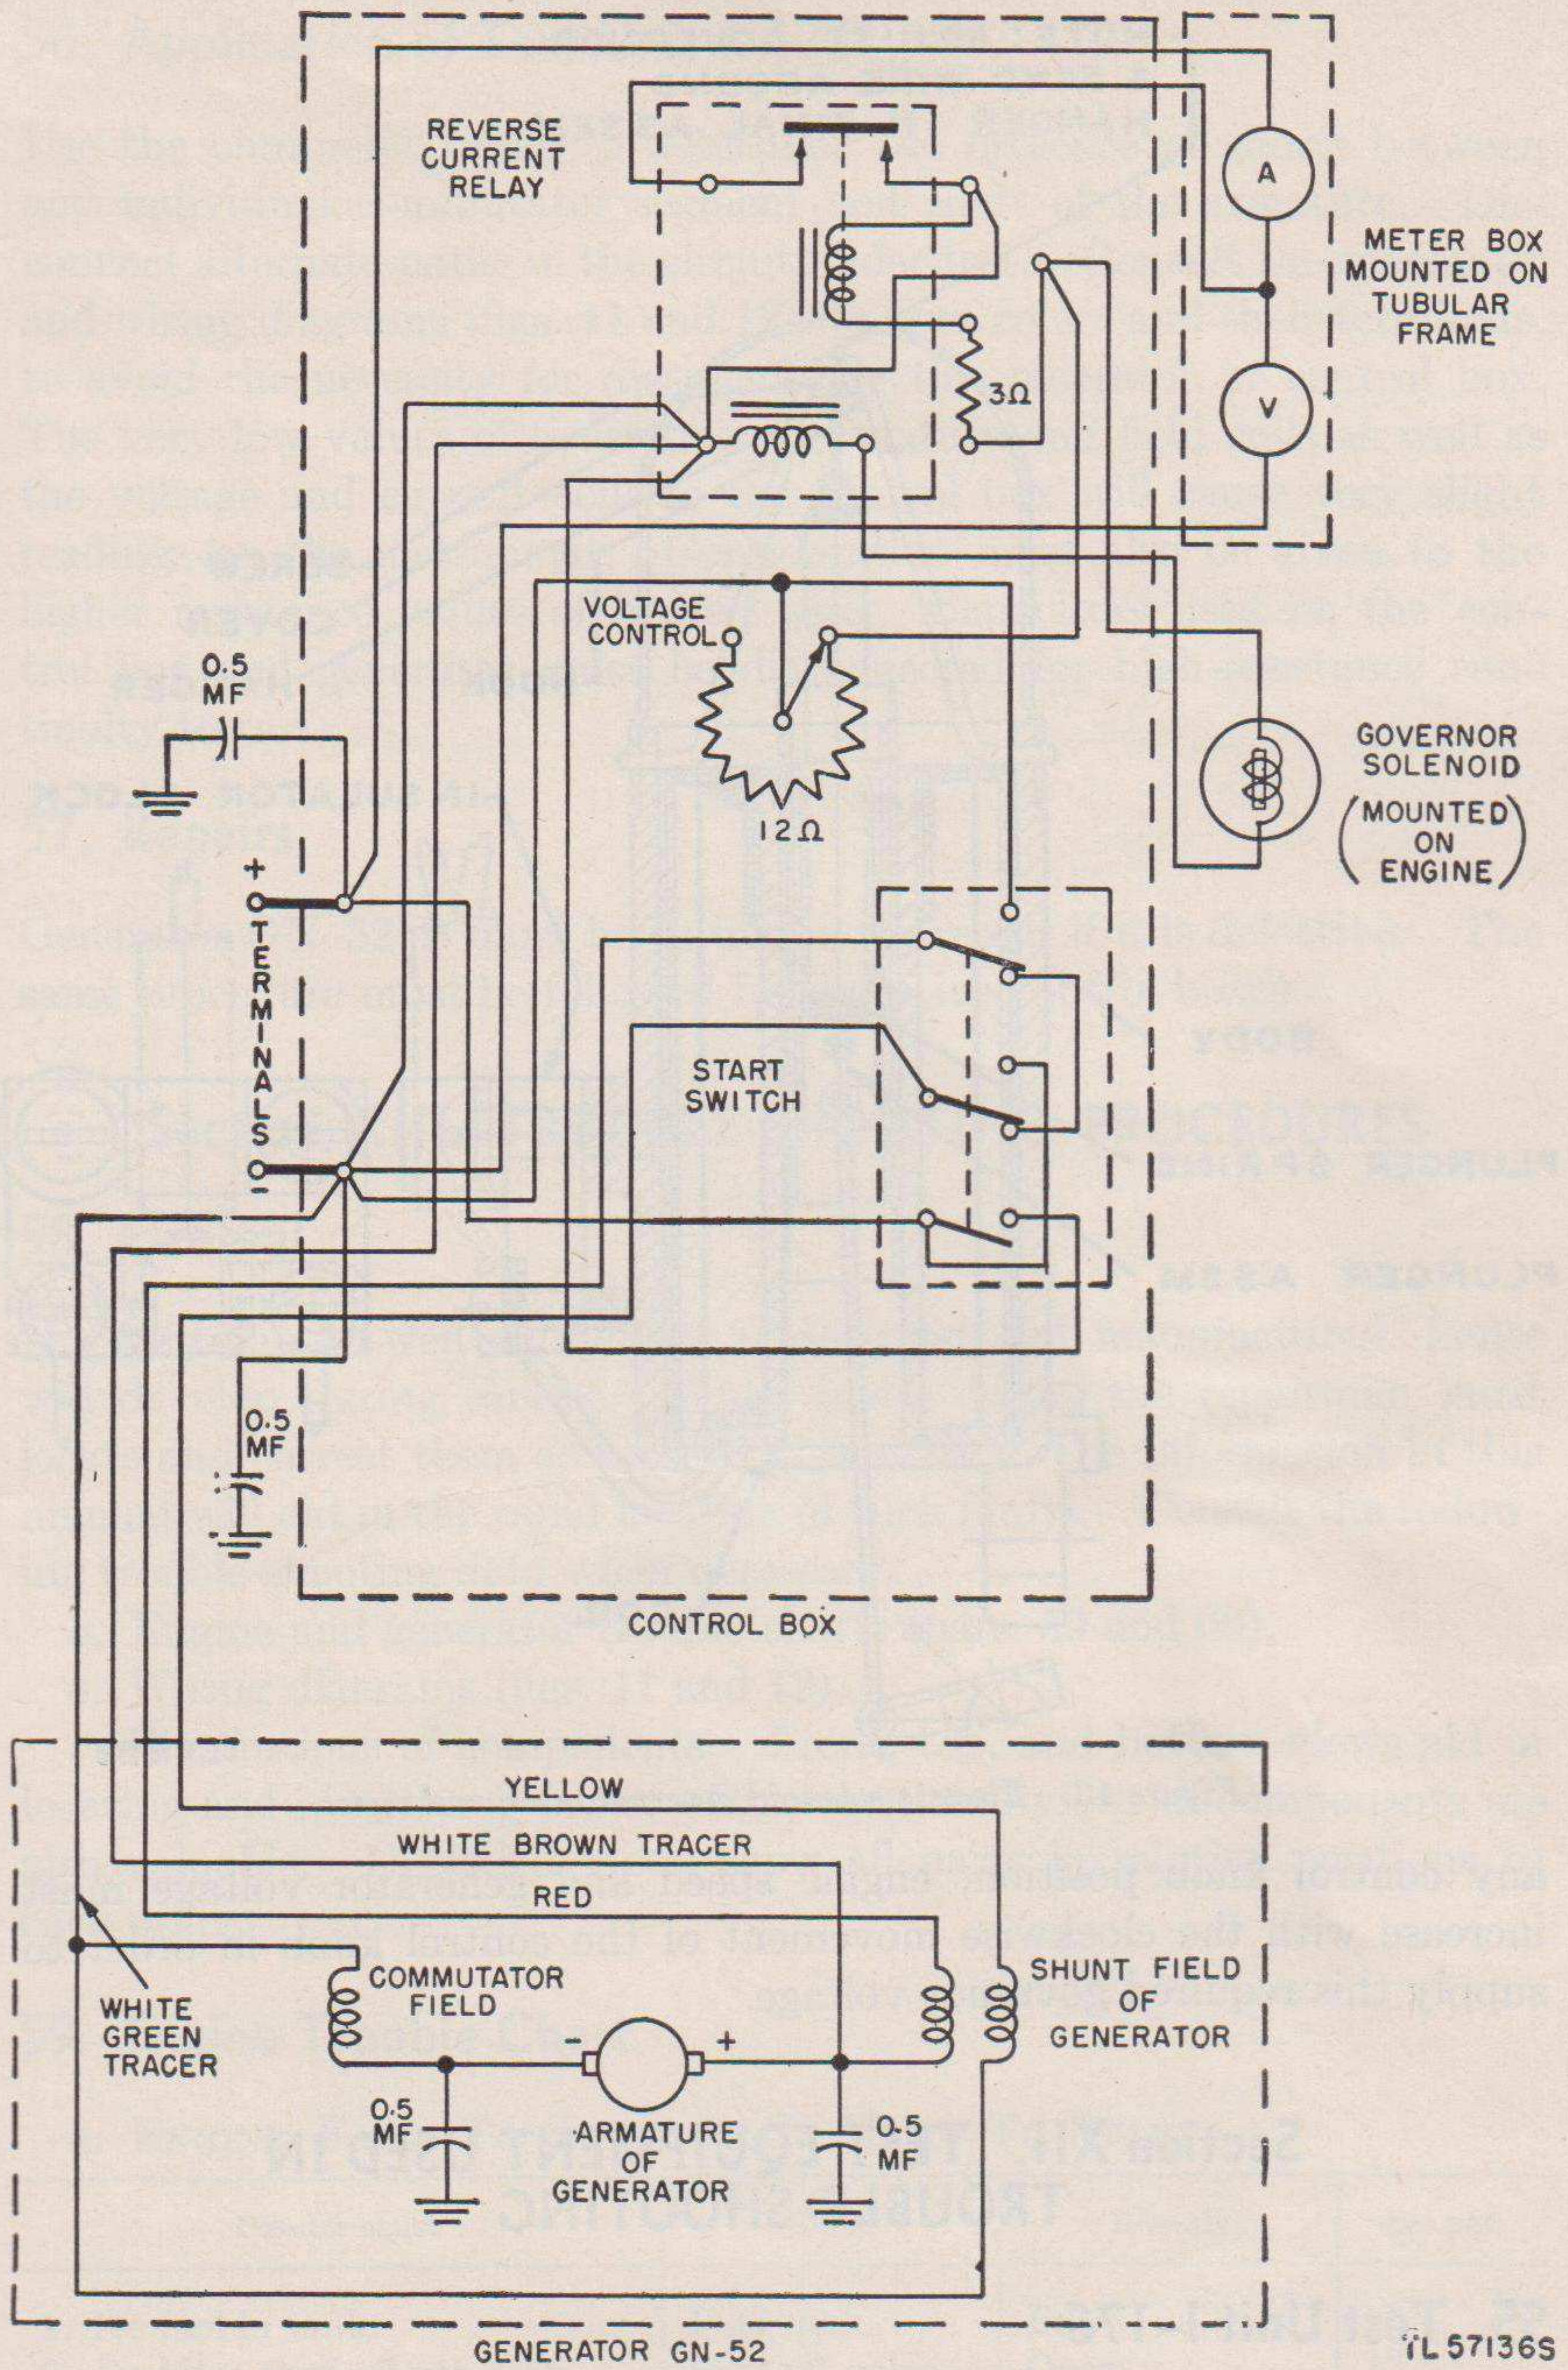

Figure 12. Electrical system, wiring diagram.
d. One lead of both the governor and voltage coil of the reverse-current relay is connected to one side (upper) of the generator (fig. 12). The other leads of both are connected to the right end of the 12-ohm rheostat. The arm of the rheostat is connected to the other side (lower) of the generator. Thus, both the governor and reverse-current relay are subjected to a definite fraction of the generator voltage, depending on the position of the arm of the rheostat. For example, with the arm in the extreme position to the right *on the diagram* (full counterclockwise position of the control knob on the control box), full generator voltage is supplied to the governor and relay and both will close at approximately 6 volts. When the control knob is moved in the clockwise direction, less generated voltage is supplied to the governor and relay. However, since approximately 6 volts are required by the governor for